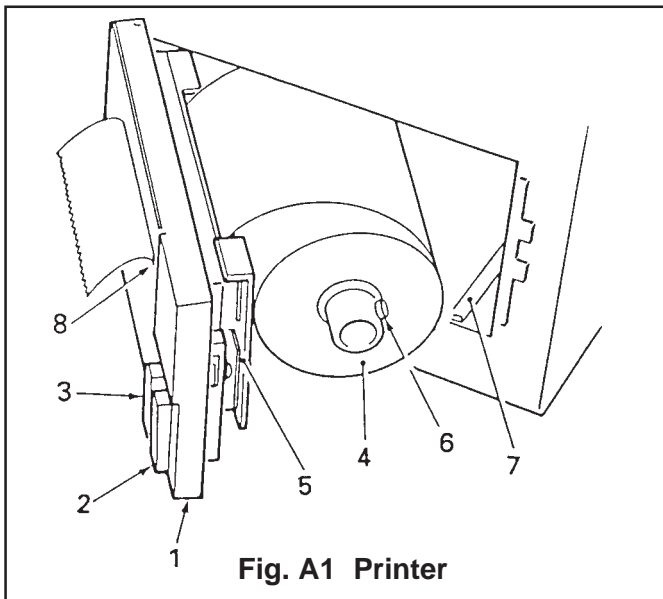

Fig. A1 Printer
Printer Front Panel Controls (Fig. A1)
Paper Roll Renewal (Figs. A1 and A2)
- f Press paper roll spring-loaded retainer button (A1-6) and locate new paper roll on spindle with paper unreeling anticlockwise as seen from open end of spindle (Fig. A1).